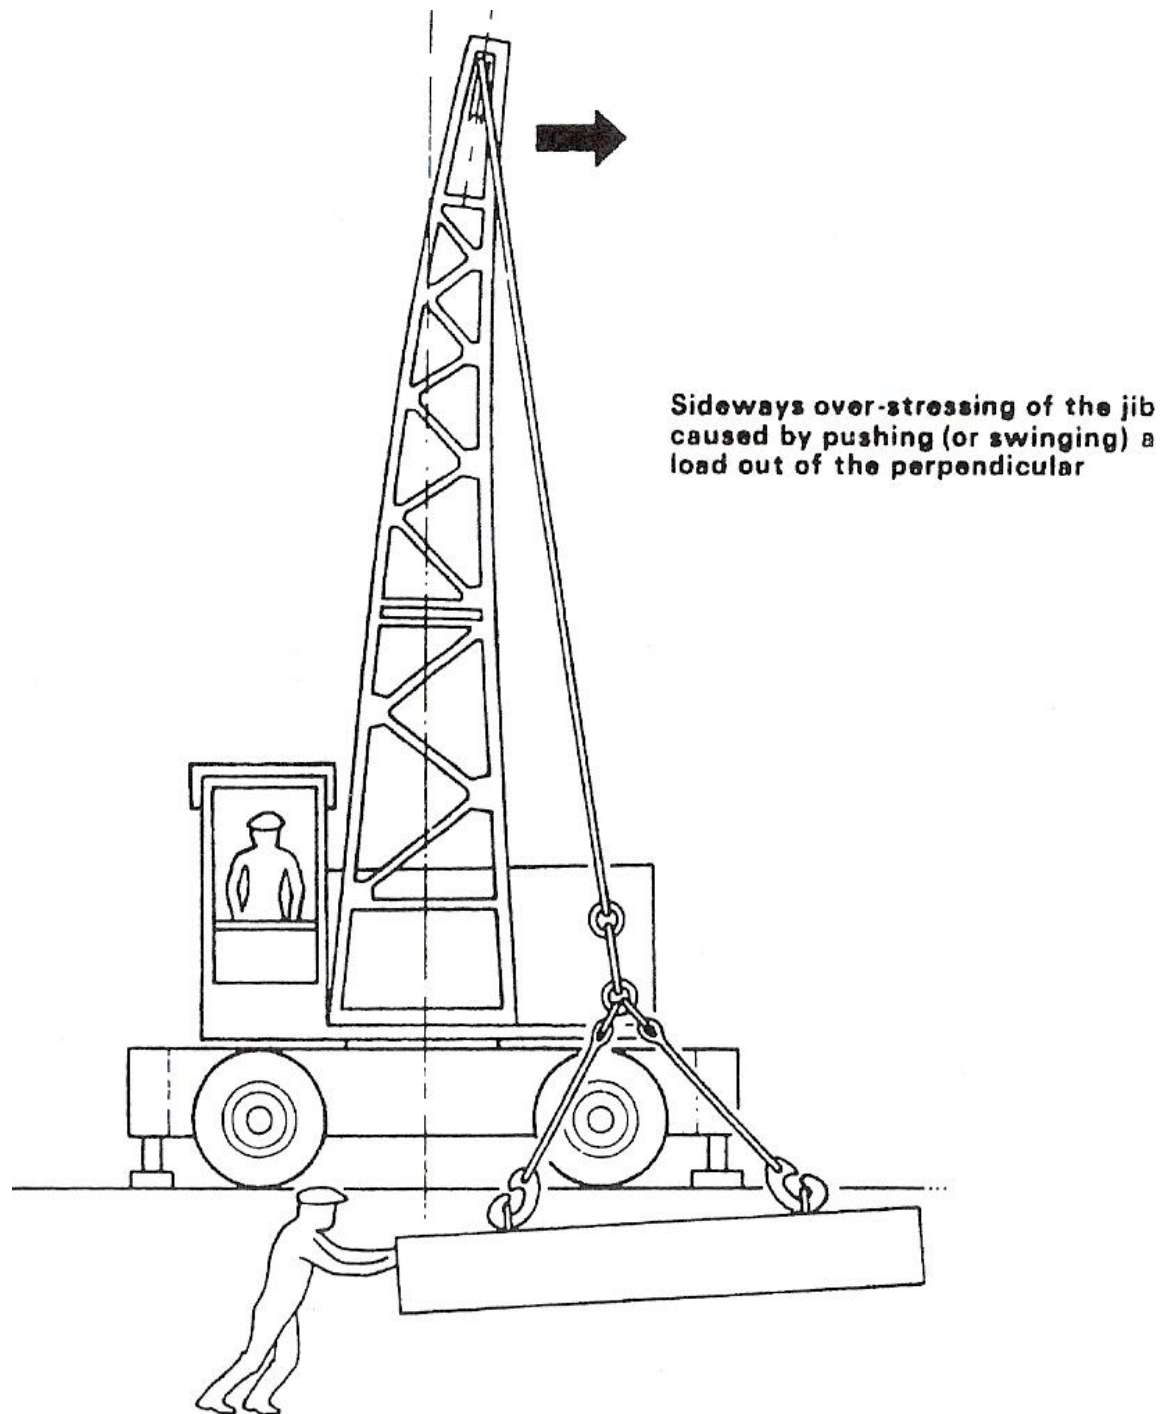

Figure 6 - Effect of Swinging the Load
2. Loads should always be kept directly and vertically under the lifting point of the jib. Severe overstressing of the jib can be caused by dragging loads inwards or sideways or by moving loads out of the vertical. This effect is indicated in Figure 6.